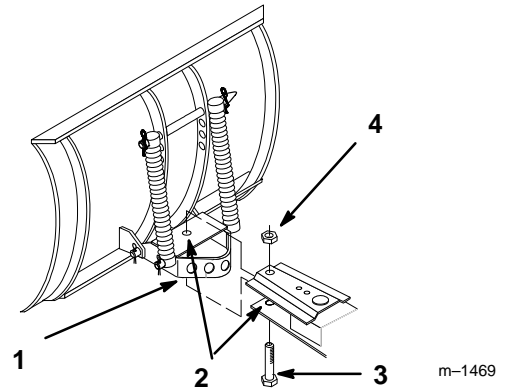

Figure 3
3. Apply general purpose grease to the pivot area of frame and channel. Slide channel between frame mount and secure with 3/4-16 x 3-3/4" (95 mm) bolt, up from the bottom, and 3/4" locknut (Fig. 3).